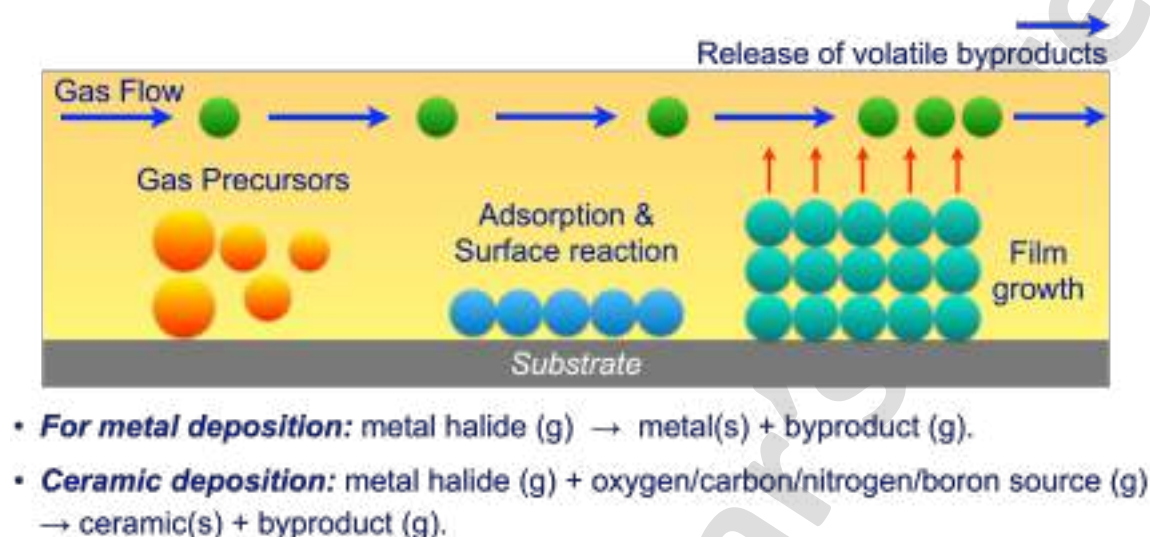

Fig. 28: Growth mechanism of CVD
- A basic CVD process consists of the following steps as illustrated in Fig. 28. A predefined mix of reactant gases and diluent inert gases are introduced at a specified flow rate into the reaction chamber; the gas species move to the substrate; the reactants get adsorbed on the surface of the substrate; the reactants undergo chemical reactions with the substrate to form the film; and the gaseous by-products of the reactions are desorbed and evacuated from the reaction chamber.